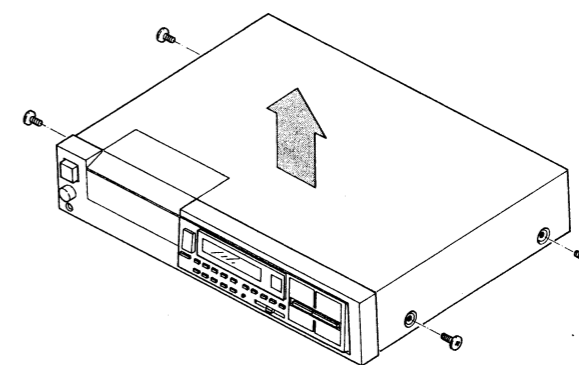

Fig. 25
1. Remove the cabinet. [Fig. 25]